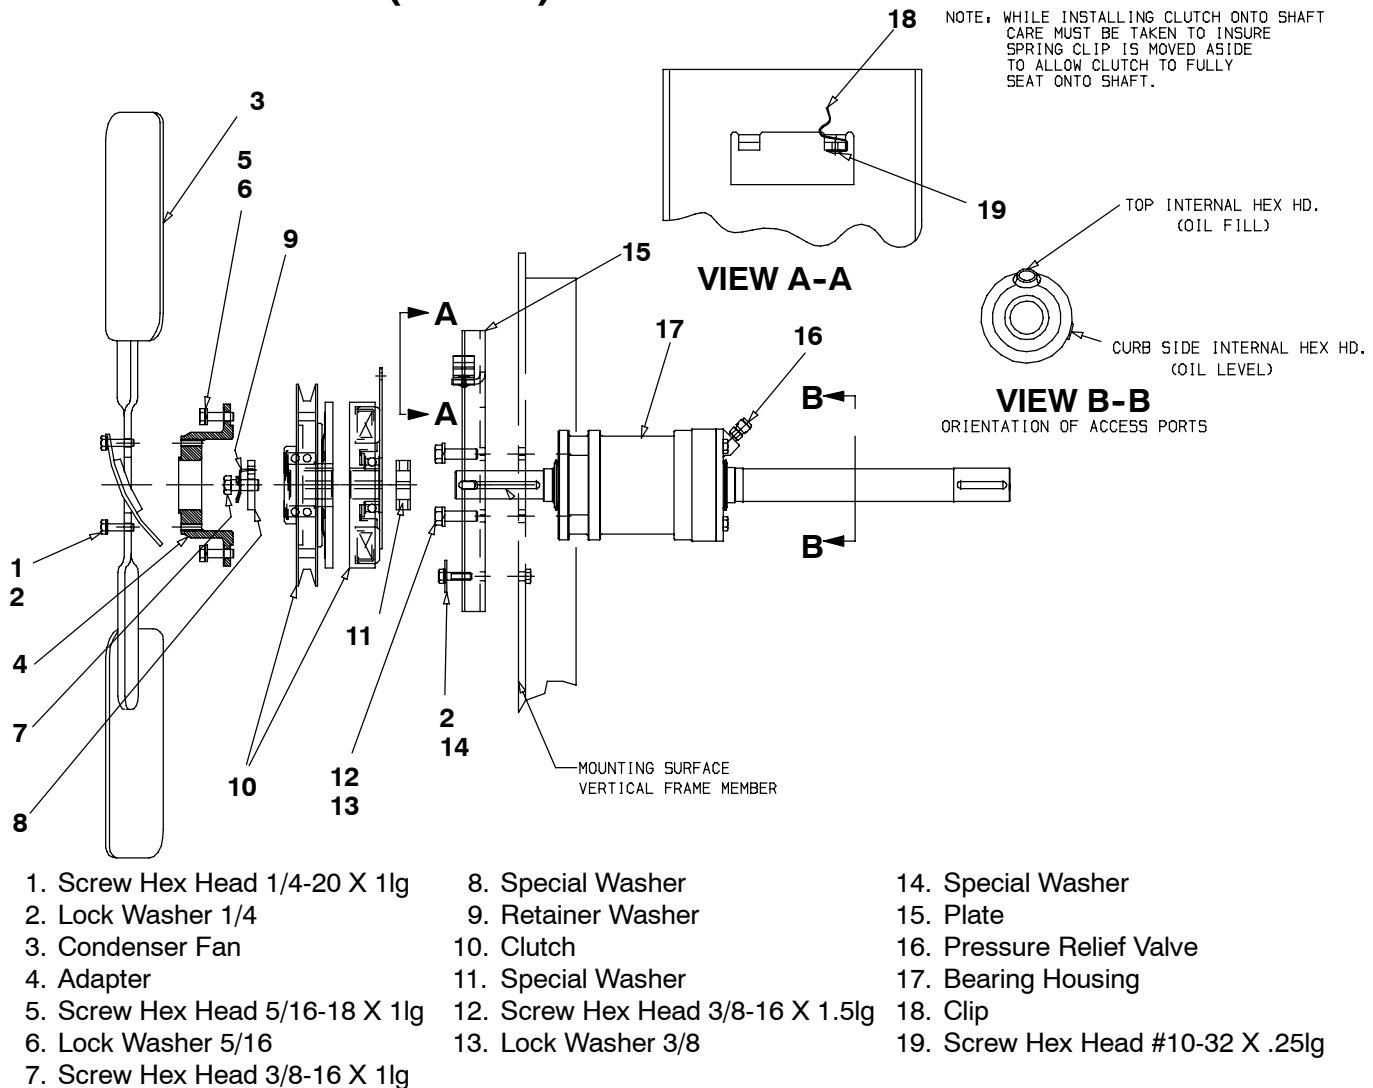

Figure 8-13. Evaporator/Condenser Fan Shaft Assembly (Ultima)
a. To Remove the Clutch (See Figure 8-13)
5. Remove the 3 bolts (item 5) which secure the condenser fan and hub assembly (items 3, 4) to the clutch and carefully remove condenser fan assembly from unit.
6. Bend the lock tabs of the retaining washer (item 9) away from the clutch mounting bolt (item 7).
7. Using an 1/4" Allen wrench or rod, slide it through the notch on either side of the backer plate (item 15) until it touches the washer behind the clutch. Slowly rotate the fan shaft while applying a slight pressure to the rod until the rod slips into one of the anti-rotation holes in the washer. With the rod in place, remove the bolt and washers (items 7, 8 & 9) which secure the clutch onto the shaft.
12. Install clutch on fan shaft assembly by reversing steps 1-7. Add a thin coating of anti-seize compound to new clutch bore. Do not get anti-seize compound on clutch contact surfaces. Be sure to align anti-rotation tang of rotor/field assembly (12 o'clock position) between the two backer plate supports while sliding it into position and also pull the tension clip (item 18) out of the way (about 1") to fully seat this clutch half. Orient retainer washer (9) so that bent tab is inserted into key way, then bend two tabs over the bolt. Clutch bolts torque is 25 to 30 ft/lbs.
b. To Remove the Fanshaft / Bearing Assembly (See Figure 8-13)
2. Remove washer (item 11) from shaft (behind clutch).
4. Remove two screws securing split tapered bushing, to blower wheel (items 12 and 13, Figure 8-13). Place the two screws in the threaded holes of the fan hub and use screws as jacking bolts to remove bushing from blower wheel.
5. Remove venturi ring (item 13, Figure 8-13) by removing 4 screws.
7. Remove 4 screws from the bearing housing (item 17).